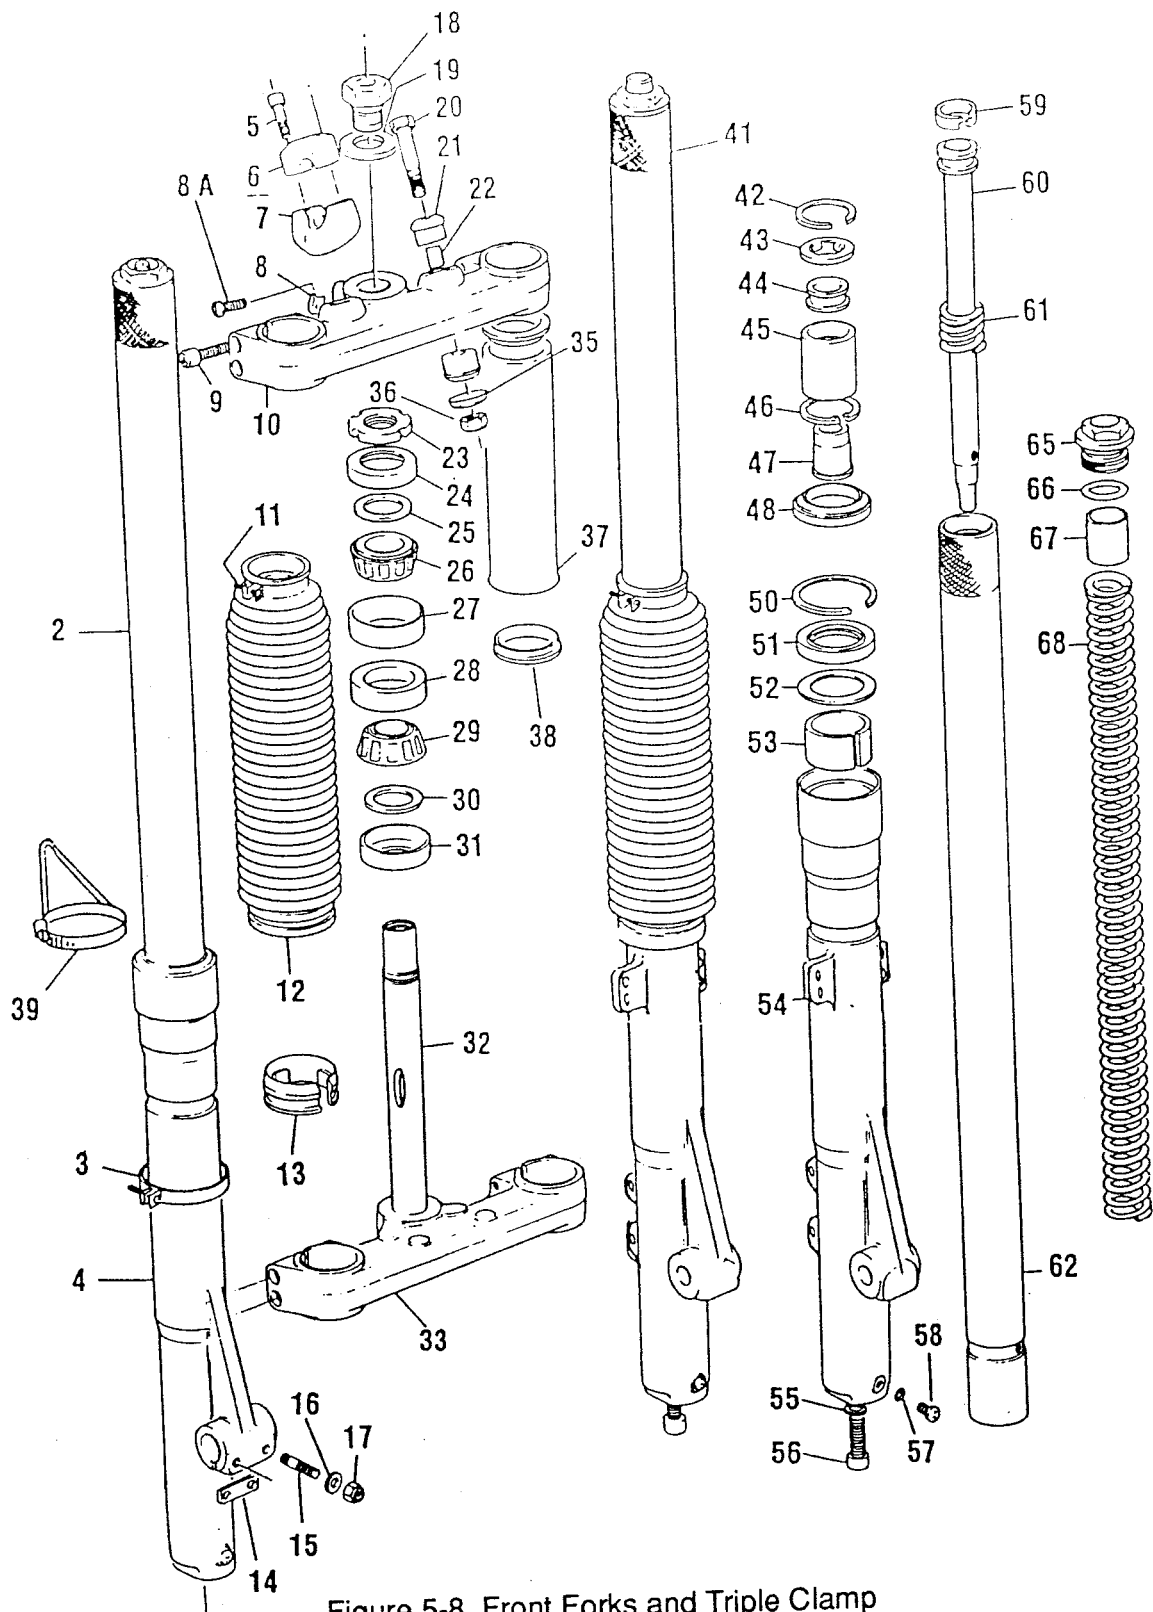

Figure 5-8. Front Forks and Triple Clamp
LEGEND - FIGURE 5-8
5. See Figure 5-8. Loosen the fork bracket pinch bolts (11) and carefully withdraw the leg(s).
FRONT FORK DISASSEMBLY (Figure 5-8)